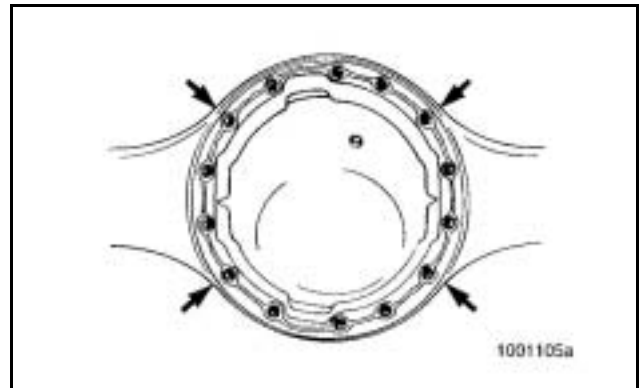

Figure 128
- Install nuts* and washers or capscrews and washers in the four corner locations around the carrier and axle housing. Tighten the fasteners hand tight at this time. **Figure 128**.
- Carefully push the carrier into position. Tighten the four fasteners two or three turns each in a pattern opposite each other. Refer to **Figure 128**.